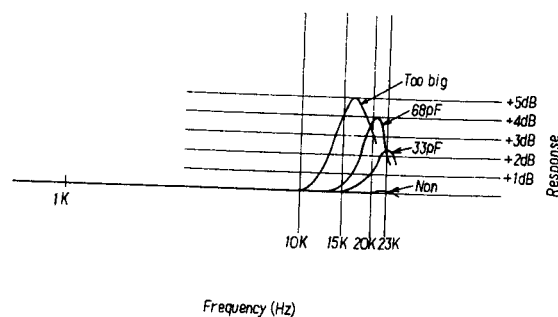

Fig. 7.20
- (5) Load a 15KHz P.B.F.R. tape (DA09002A) and play it back.
- (6) If the output of 15KHz shows the value within $\pm$ 2dB, it shall be considered satisfactory.
- (7) Load a 20KHz P.B.F.R. tape (DA09001A) and play it back.
- (8) If 15KHz at (5) shows the value within $\pm$ 2dB and 20KHz being less than -3dB, check shall be made on C101, 201 with 0 – 220PF. Refer to Fig. 7.20. "Compensation of Playback High Frequency Response".
- (9) Adjustment shall be made so that 10KHz, 15KHz and 20KHz will become flat when compared with 400Hz.
- (10) If the results are shown to belong to high, set R101, 201 to open -220K ohms.
- (11) Adjust the azimuth alignment to the maximum output with a 15KHz azimuth alignment tape (DA09004A).